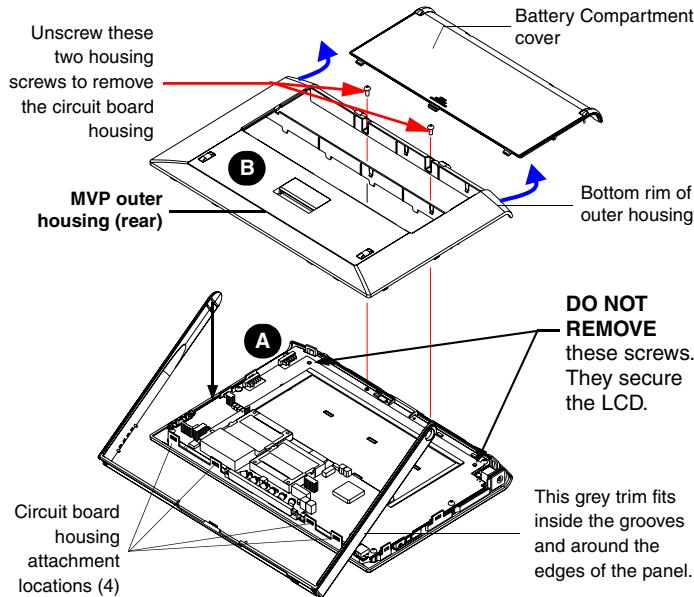
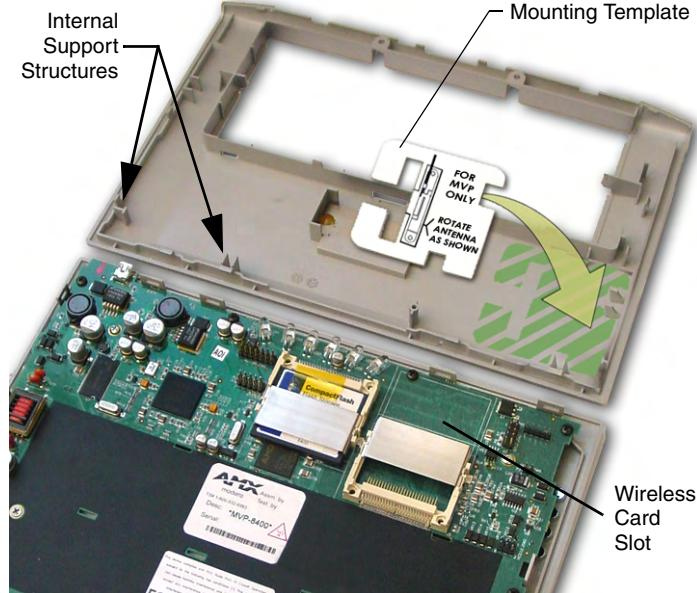

FIG. 2 Removing the MVP enclosure (housing)
FIG. 3 Installing the Mounting Template in the correct location
- Slide the Battery Compartment cover (FIG. 2) away from the metal plate to expose the internal battery compartment (2 battery slots).
- Use a grounded Phillips-head screwdriver to remove the two housing screws shown in FIG. 2. Once done, place these screws aside.
- Grasp the bottom rim of the outer housing (just above the MVP interface connector - **Blue arrows** in FIG. 2) and **in a single motion**, carefully pull the bottom rim up and then out (away from the IR Emitter) to expose the internal circuit board (**A** in FIG. 2). *It might be necessary to repeat this process along the bottom and sides of the housing as well.*
- Remove the dark grey trim from the top rim of the board (FIG. 2).
- Discharge any static electricity from your body by touching a grounded metal object and then locate the wireless card slot on the main board (FIG. 3).
- Place the circuit board (**A** in FIG. 2) on a flat level surface so that the IR Emitters are pointing away from you.
- Flip over the MVP's rear housing (**B** in FIG. 2) so that the internal support structures are visible and then lay it directly in front of the circuit board such that the battery compartment is furthest away from you. This placement provides contact of both top rims (FIG. 3).
- Place the included Mounting Template cutout along the bottom right corner of the rear housing (FIG. 3). Use the housing's inner support structures to fix the template into place.
6. Use a grounded Phillips-head screwdriver to insert and re-secure the two housing screws removed in Step 1 (FIG. 2).